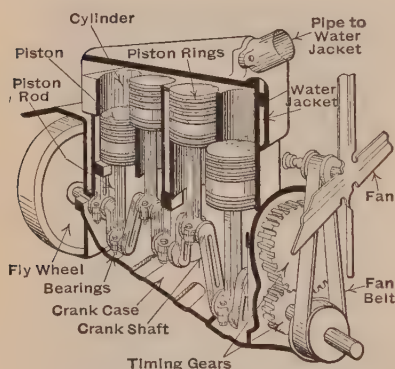

FIGURE 181A. — A FOUR-CYLINDER AUTOMOBILE ENGINE AS SEEN FROM THE SIDE (INTERIOR VIEW).
or *exhaust* stroke, an *intake* (stroke) of new gases, and a *compression* (stroke) of gases. How can all these actions be accomplished in order and with efficiency? (Fig. 181a).
The modern automobile, however, as a result of many improvements, has become a very complex mechanism. It may now be said to be composed of several systems. (1) The chassis (shà'sê), including the wheels, frame, springs; (2) the body and its attachments (Fig. 185); (3) the power plant, or the engine and its parts (Figs. 181a and 181b); (4) the transmission system, which connects the engine with the driving wheels (Figs. 182a and 182b); (5) the cooling system